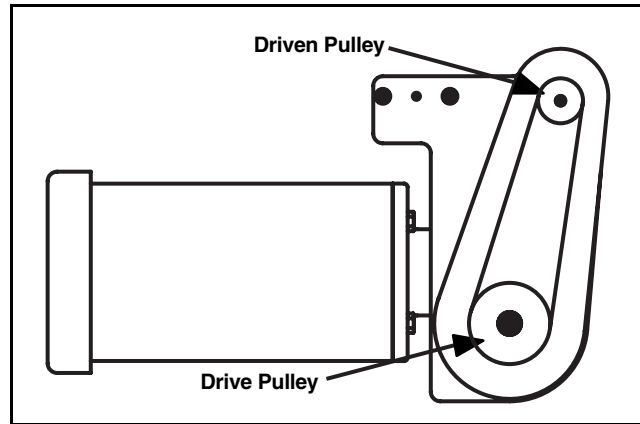

Figure 2
2. Determine the pulley kit ratio. Count the number of teeth on the drive and driven pulleys following figure 2. Using table 6, look up pulley ratio based on pulley combinations.